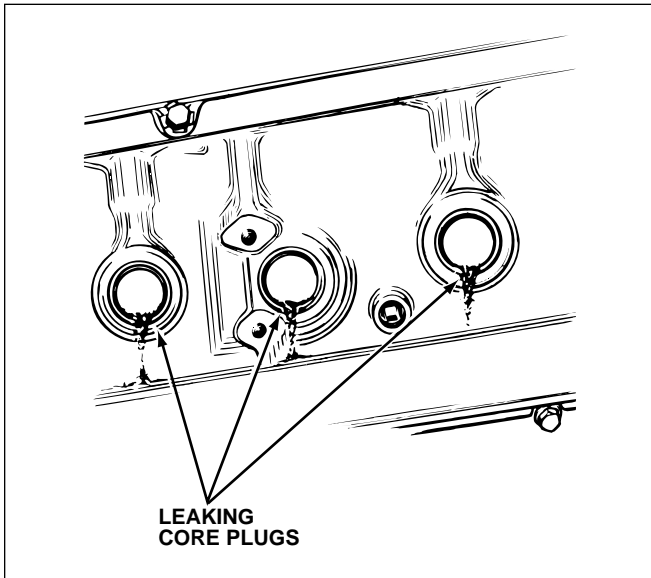

Fig. 4-9. Check for signs of coolant leakage at the core plugs on the sides of the engine block.
- Look for signs of leakage around the core plugs, figure 4-9